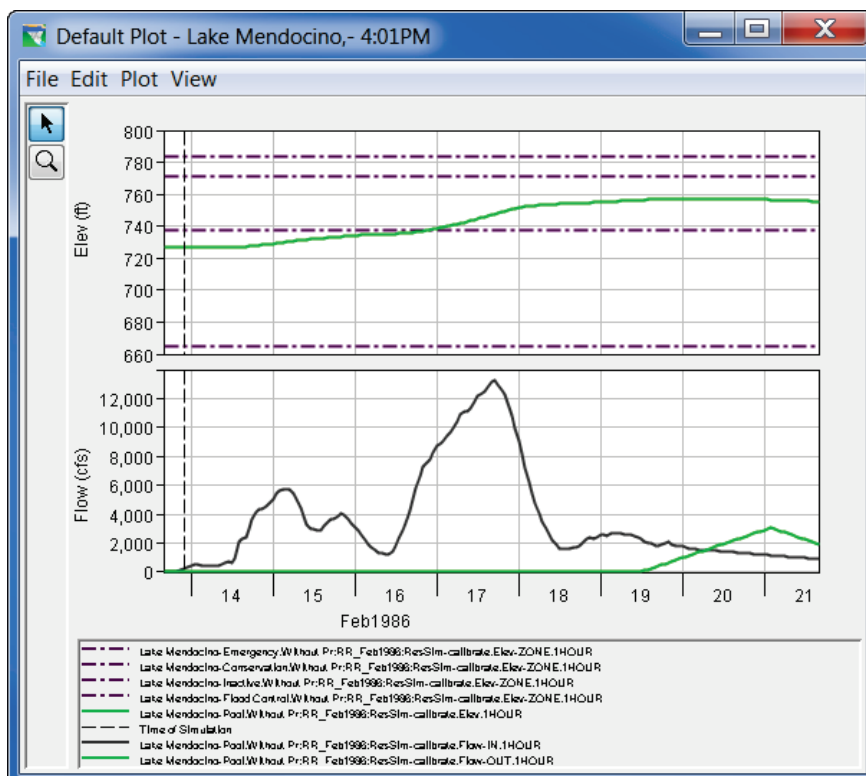

Figure N.11 HEC-ResSim Plot Window
Plots provide a graphical representation of your data. From the **Plot Window** (Figure N.11) the user can view the plot, as well as print, save as a graphics file, copy the contents of the **Plot Window** to the clipboard, and save the properties of the plot to a template to be used by other plots. Following is an overview of the menu bar of the **Plot Window**. The commands available from the menus are:
5. Click **Save**, a file with the appropriate extension will be created in the selected location. The file will contain the contents of the **Plot Window** (Figure N.11).
The **Plot Window** (Figure N.11) provides the user with several different commands to setup the printing process and to print.